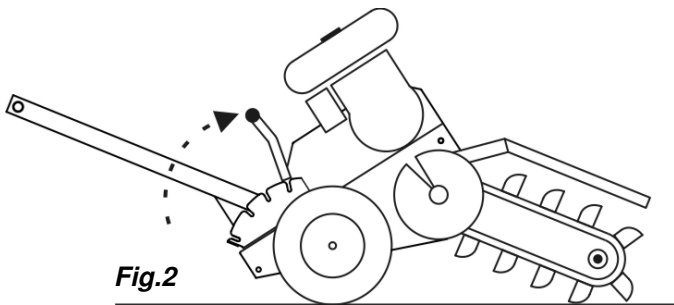

Fig.2
2. Lift the depth control handle and slowly move the lever forward into the desired depth notch. **Fig. 2**